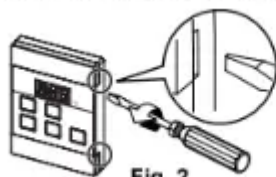

Fig. 2
4. Carefully remove the cover plates from the water controller, using a screw driver (Fig. 2).
STEP 2: Check that the display on ALL FOUR water controllers is lit and displaying a temperature when 'switched on'. If any ONE of the water controller displays two dashes (see Fig. 2) repeat STEP 1.